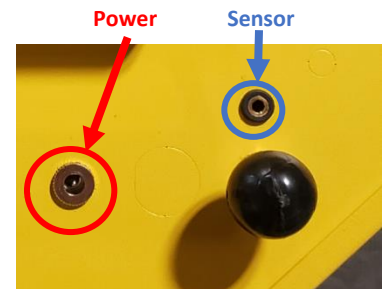

Figure 4
11. Plug the sensors into the top of the unit (Figure 4). **PLUG ALL SENSORS IN BEFORE ENERGIZING THE UNIT.**
12. Locate ¼" plug from power supply and plug into top of unit (Figure 4).